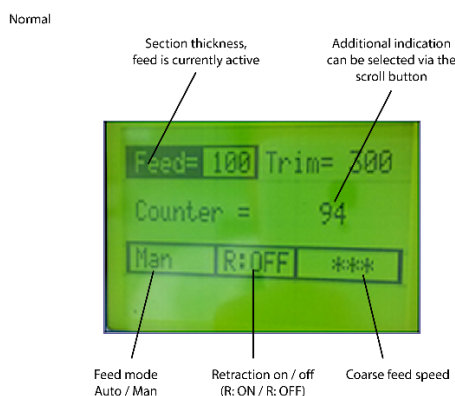

Fig 21
- The normal display mode, Fig 21 shows the selected feed and trim thicknesses with additional status indications.